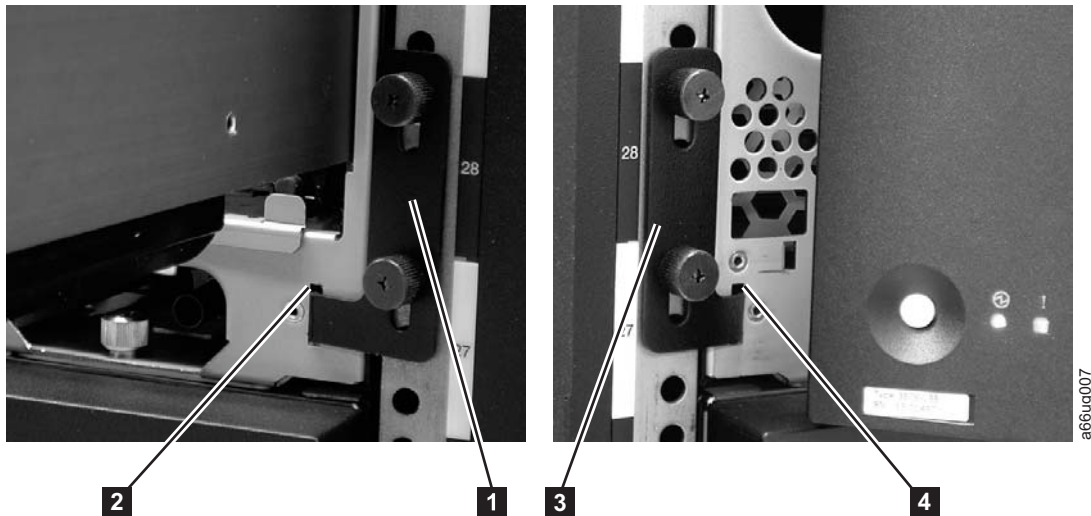

Figure 12-33. Removing the rack ears on a Control Module
- b. Remove the right rack ear (**2** in Figure 12-33 on page 12-38).
- c. Remove the left rack ear (**3** in Figure 12-33).